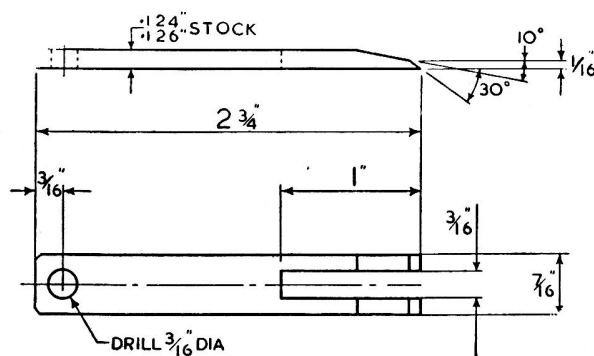
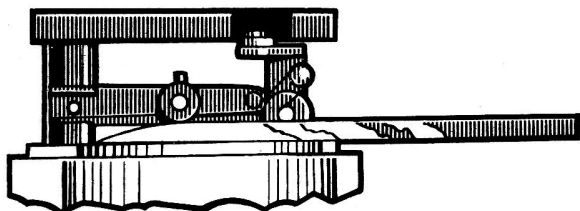

Fig.3.6. The diaphragm stretching tool
Fig.3.7. The diaphragm stretching tool in position
- 8 The following paragraphs apply to HP pumps - assemble the body to the housing in its original position. Engage the six set screws finger tight at this stage. Fit the spring contact blade and adjust and tighten it so that each contact point wipes over the centre line of the other point and not to one side of either contact. The diaphragm must now be stretched to its outermost position and this is most easily done by inserting a matchstick behind one of the white fibre rollers on the outer rocker, thus holding the points in contact. If a current is now passed through the pump, the magnet will be energised and will pull the armature and diaphragm forward and whilst it is in this position the six setscrews should be tightened down. Alternatively the diaphragm can be stretched by using a diaphragm stretching tool as illustrated in Fig.3.6. This is a steel wedge which is inserted under the trunnion "O" in the centre of the inner rocker in order to stretch the diaphragm to its outermost position. Fig.3.7 illustrates the tool in position.